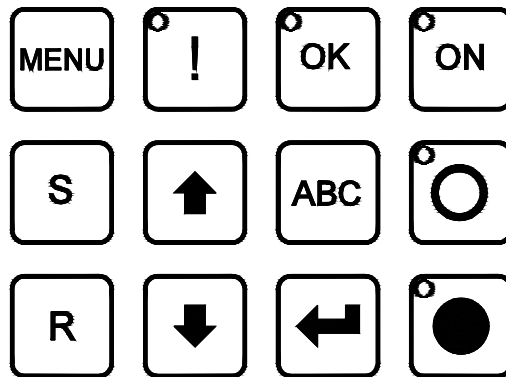

**Figure 11**
**Figure 11** below shows the location of these control elements. Their function is explained in the following: